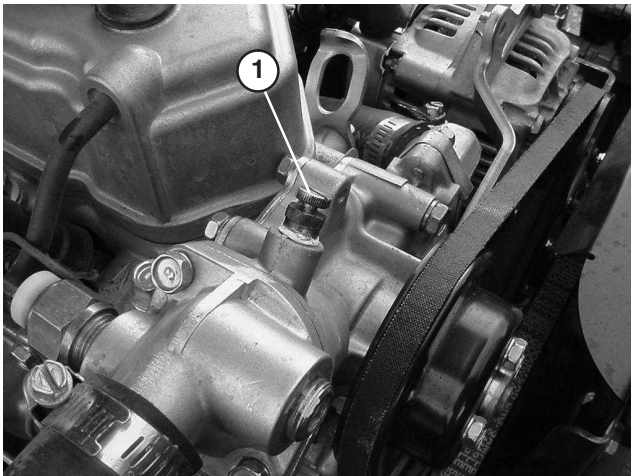

Figure 50
6. Open bleed screw on top of water pump (Fig. 50).